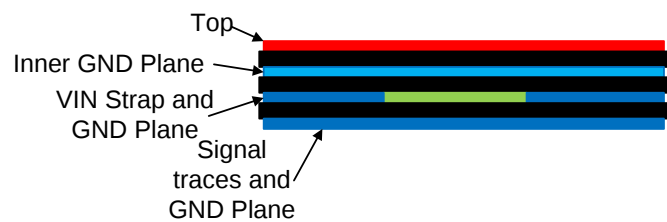

Figure 51. Example Layout for VQFN Package
The PCB layout of any DC/DC converter is critical to the optimal performance of the design. Bad PCB layout can disrupt the operation of an otherwise good schematic design. Even if the converter regulates correctly, bad PCB layout can mean the difference between a robust design and one that cannot be mass produced. Furthermore, the EMI performance of the regulator is dependent on the PCB layout, to a great extent. In a buck converter the most critical PCB feature is the loop formed by the input capacitor(s) and power ground, as shown in Figure 50. This loop carries large transient currents that can cause large transient voltages when reacting with the trace inductance. These unwanted transient voltages will disrupt the proper operation of the converter. Because of this, the traces in this loop should be wide and short, and the loop area as small as possible to reduce the parasitic inductance. Figure 51 shows a recommended layout for the critical components of the LMR33630-Q1.
1. **Place the input capacitor(s) as close as possible to the VIN and GND terminals.** VIN and GND pins are adjacent, simplifying the input capacitor placement. With the VQFN package there are two VIN/PGND pairs on either side of the package. This provides for a symmetrical layout and helps to minimize switching noise and EMI generation. A wide VIN plane should be used on a lower layer to connect both of the VIN pairs together to the input supply; see Figure 51.